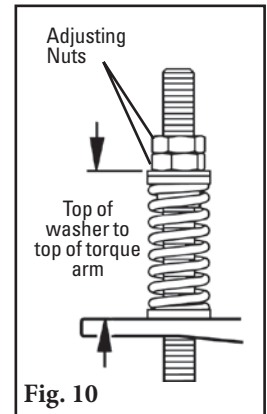

Fig. 10
15. **Set the correct blade tension.** Refer to the chart on the pivot shaft bracket (also shown below) for the spring length required for the belt width. Lightly pull the pivot arm toward the end of the torque arm slot nearest the pole and turn the adjusting nuts until the required spring length is achieved (Fig. 10). Lock the top adjusting nut.